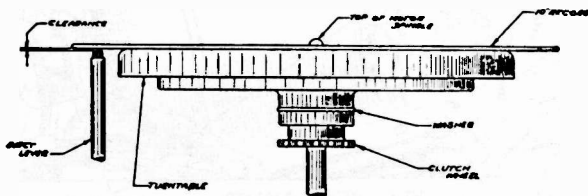

Fig. 17—Correct Height of Record on Turntable Spindle
- Note the height of the record on the motor spindle, and compare this height with the correct height as shown in Fig. 17. If the record is considerably lower, raise the height by placing one or more cork or fibre washers, part 51870, under the turntable.